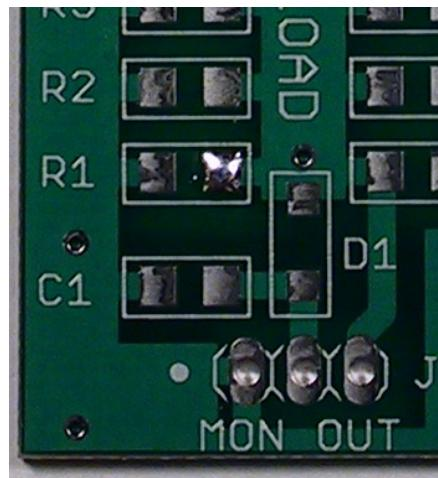

Figure 2.The Right Amount of Solder at R1
- Apply a small amount of solder to the right pad of R1, as shown in Figure 2.